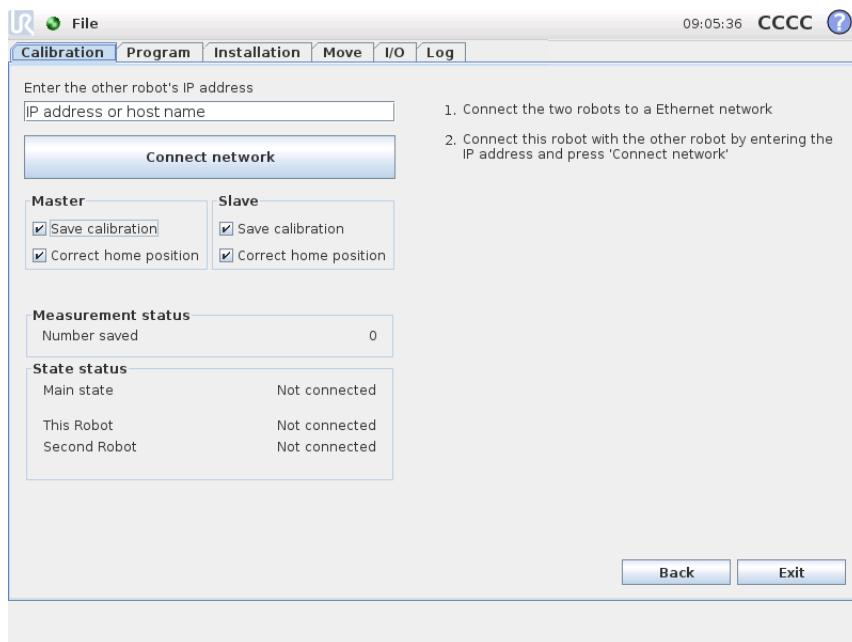

Figure 2.12: Manual enter IP address
Selecting *Manual* leads to the screen in Figure 2.12.
- (9) In Figure 2.12, Enter the IP number or host name of the *Slave* by clicking the text field with the text "IP address or host name".
- (10) Connect by press *Connect network*, see Figure 2.12.